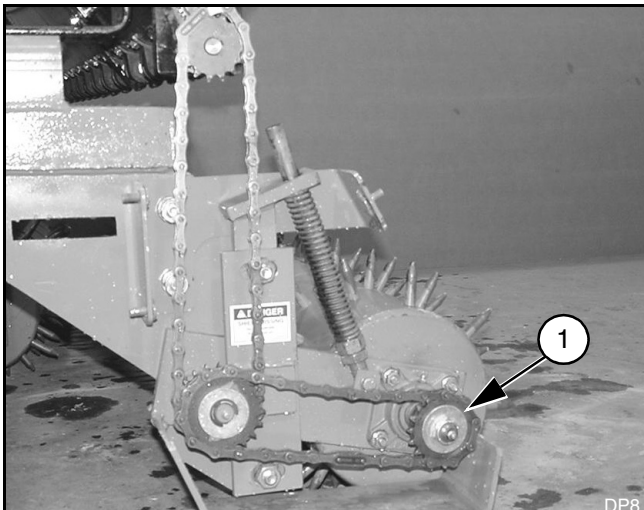

Figure 9. Drive Chains
When properly torqued, the hex lock nut (1), Figure 9, drives the seedbox roller chain. Disengage the seedbox chain when not in use by backing off a 1/4 turn on the lock nut.